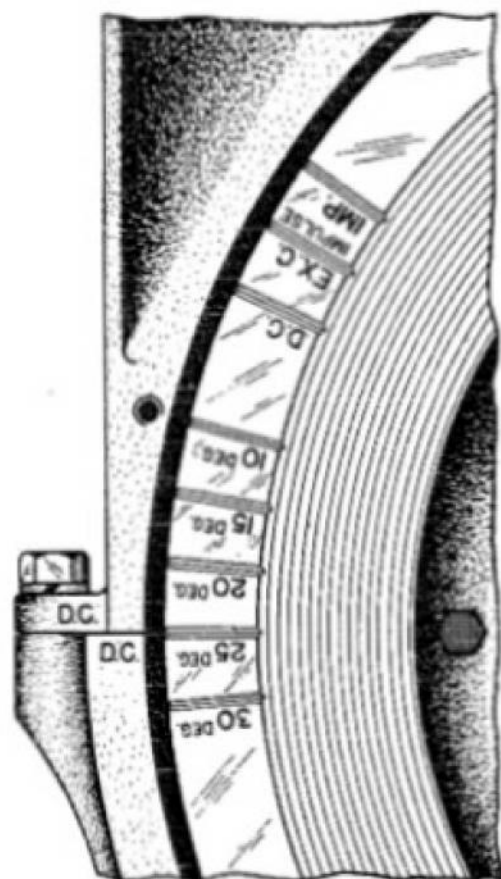

Fig. 20. Flywheel Timing Marks
- (1) Use only high-test winter-grade gasoline and keep the supply tightly covered so that the more volatile portion does not evaporate.
- (2) At the end of each day's run, fill the gasoline tank to prevent moisture from collecting in the tank.
- (3) Use the correct grade of lubricant in the crankcase and air cleaner. (See paragraph 38).
- (4) Drain the cooling system of water at the end of each run, or use one of the recommended antifreeze solutions shown in Fig. 20. To drain the cooling system, open the drain cocks in the lower radiator connection, manifold, and cylinder block (located beneath the carburetor). See that drains are not plugged and that the water drains completely.
- (5) During freezing weather, cover the entire radiator, fill with cooling solution, and start engine.
- (6) If starting the engine is difficult in cold
Before meshing the accessory shaft drive gear it is necessary to turn the crankshaft until the impulse mark on the flywheel is aligned with the dead center mark on bell housing when the No. 1 cylinder is in firing position. To get the No. 1 cylinder into firing position turn the engine over until the No. 4 exhaust valve just closes, which will bring the flywheel markings (Fig. 20) into position. After the crankshaft is in position as described, move the accessory shaft-drive gear until No. 1 impulse fires; then move the gear back approximately one quarter turn and mesh the gears without further movement. After installation is made, it is best to check position by removing the No. 1 spark plug and reconnecting the wire. Ground the plug but do not install it in the cylinder head. Rotate the flywheel toward impulse position. The spark plug should fire as the flywheel is moved in the direction of rotation as impulse mark is reached. If the plug does